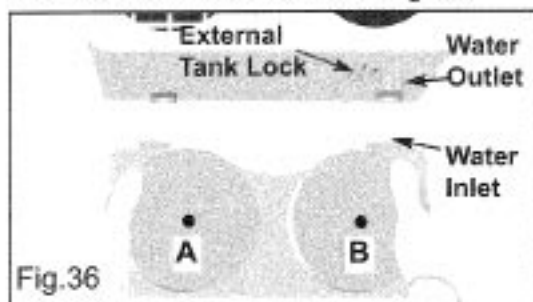

Fig.36
2. Position the external water tank, making sure the inlet on the water tank is aligned with water outlet at the back of the cabinet. See Fig 36.
• Always empty the external water tank before attempting to move or re-locate the unit to another location. • In order to avoid spillage when emptying the external water tank, remove cover "A" (as identified in fig. 36) and carefully tilt the uncovered portion of the external tank towards the sink.